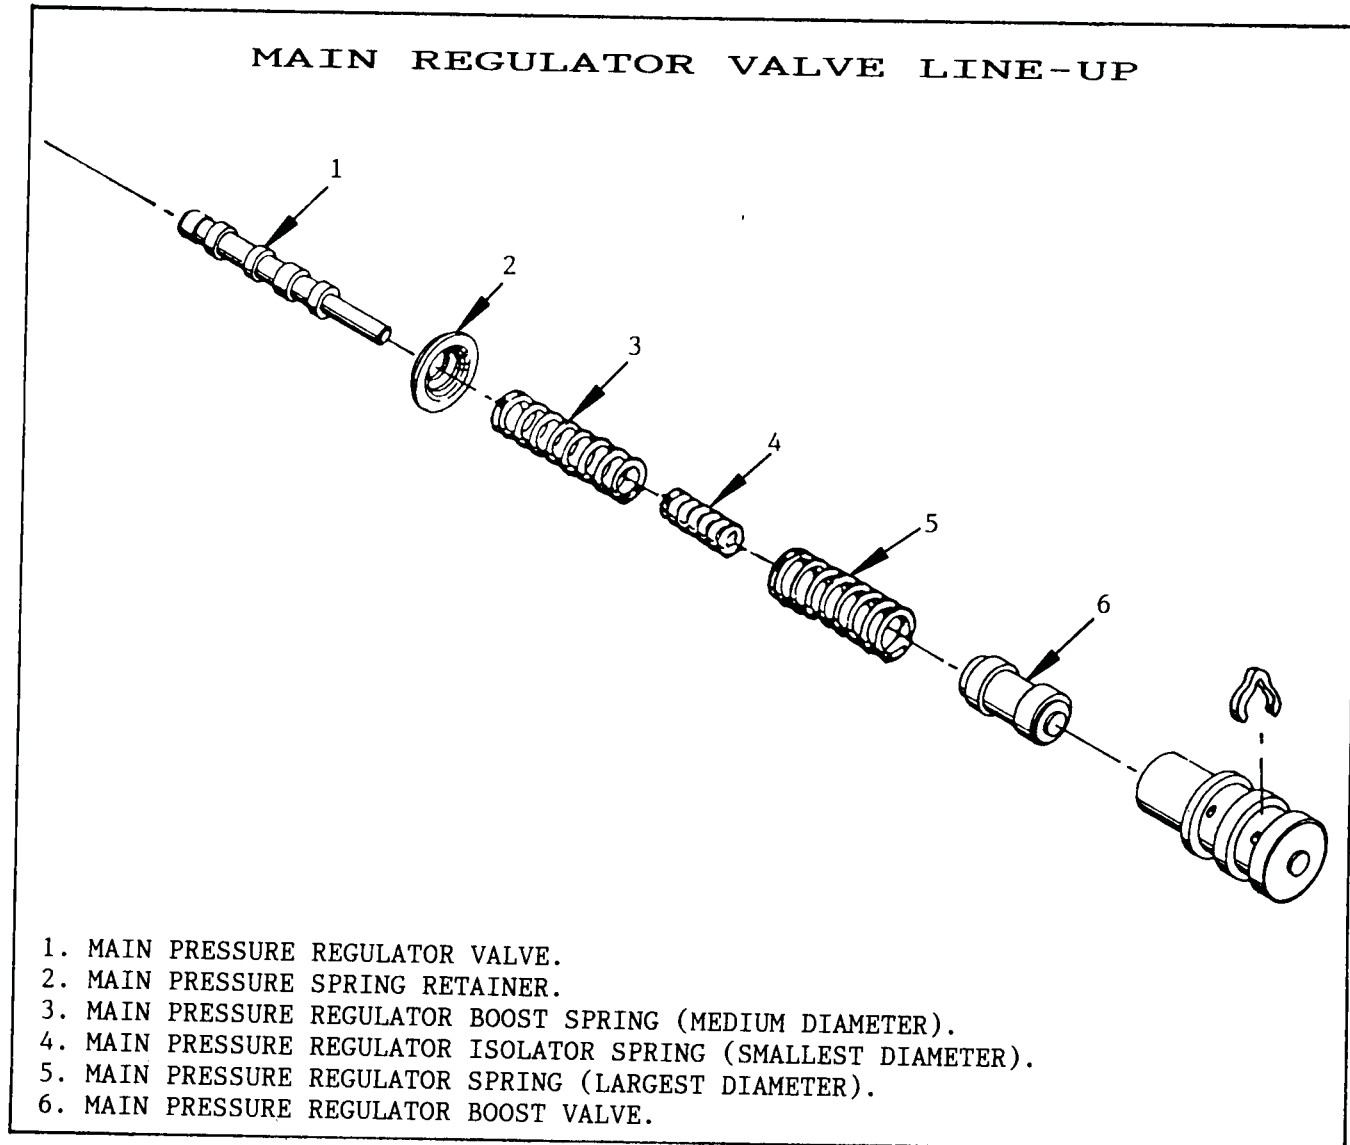

Figure 43
CAUSE: NO. 1. A "Shudder" during a 1-2 upshift will occur if the main pressure regulator "Isolator" spring is not installed after cleaning the valve body (See Figure 43). This is caused by fluctuations in main line pressure at the time of the 1-2 shift.
NO. 2. Delayed upshifts can be caused by the pressure regulator spring retainer being installed backwards (See Figure 43). This will create low main line pressure.
CORRECTION: NO. 1. Insure that all three (3) pressure regulator springs are re-installed in the valve body regulator bore (See Figure 43).
NO. 2. Insure that the main regulator spring retainer is installed in the proper direction (See Figure 43). The retainer is very similar to the one used in the AOD valve body, but is installed in the opposite direction of the AOD (See Figure 43).